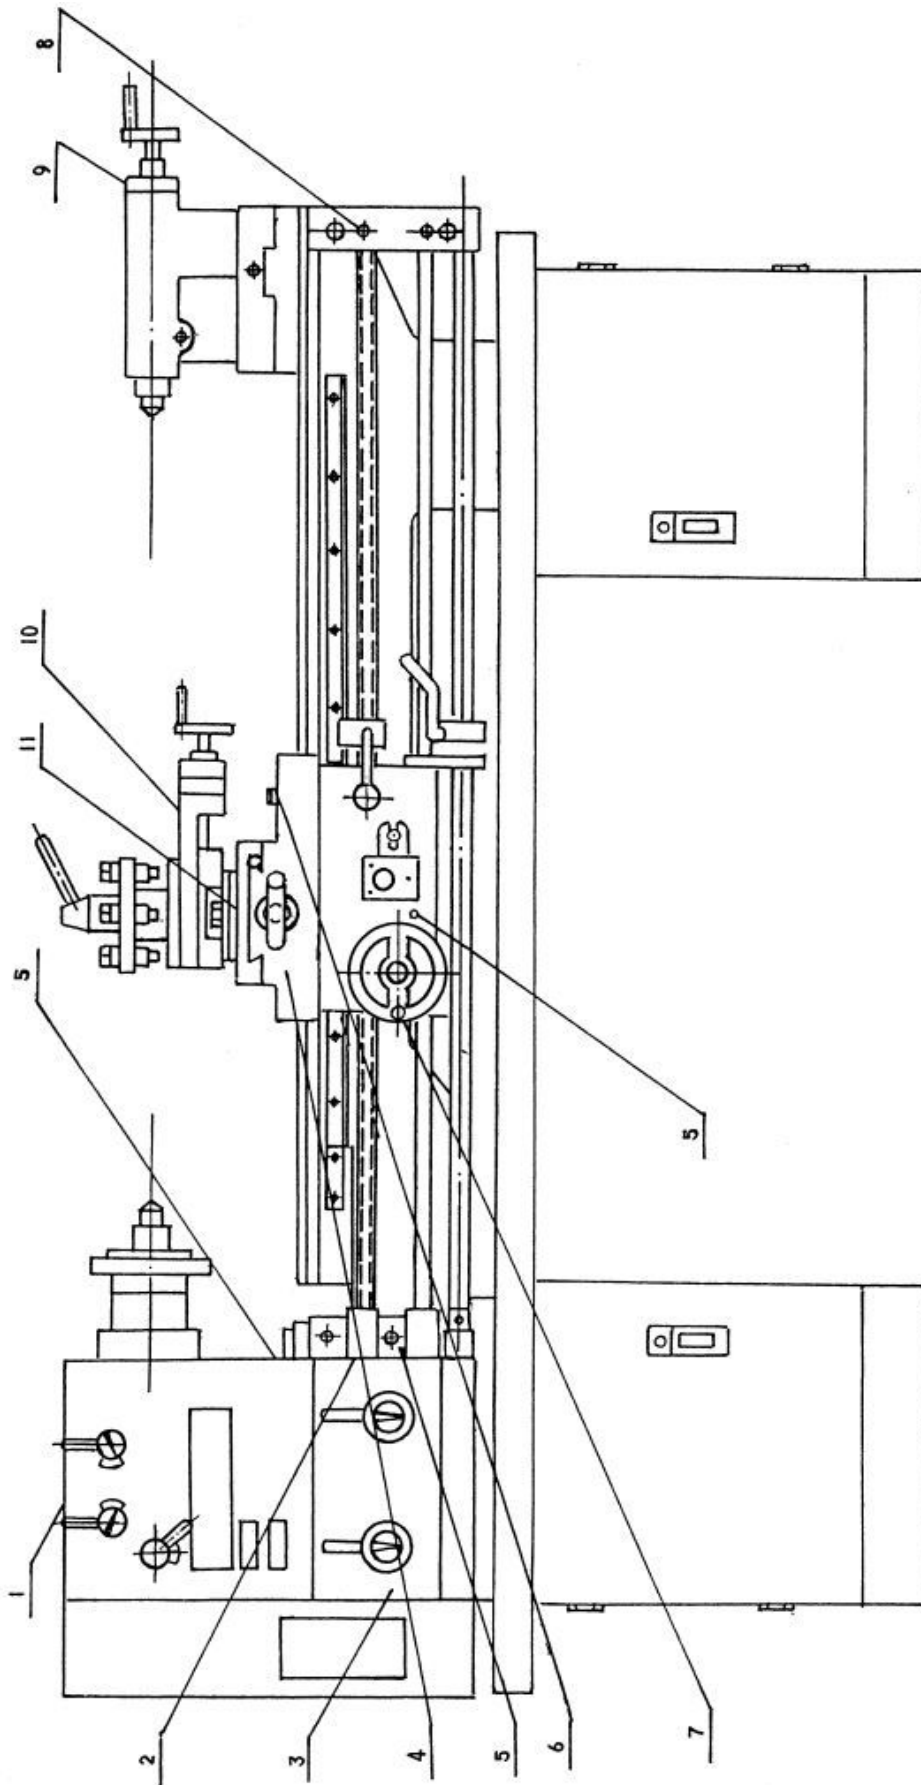

Fig.6 Lubrication system
All the moving parts and sliding surface should be lubricated please consult Fig.6.
Oil cap 2 to 11 are ball oilers (see Fig.6),except for filling the oil up to the indicator mark.at oil cap 2 & 6 ,other oil caps should be oiled twice a day by oil gun.
9.1 Before operation, check the oil indicator, refer to lubrication Fig6 and lubricate all sliding and rolling parts.